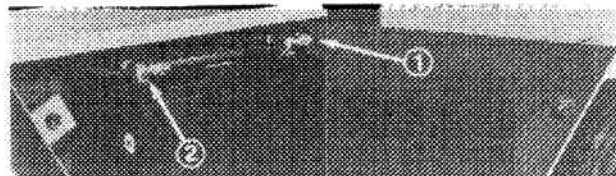

Figure 8
2. Slide battery partially out of battery compartment until terminals are accessible (Fig. 8).